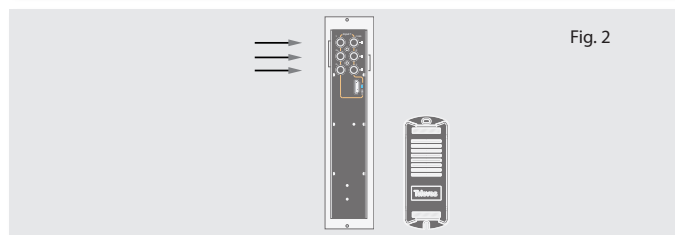

Fig. 2
2. The audio and video input signals connect to the back of the module (figure 2).